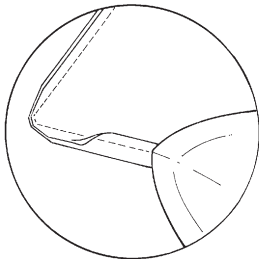

Fig. 7-3
9. Enclosed seams, such as those on collars and lapels, should also be pressed flat first, then pressed open before the garment section is turned right side out. Careful pressing in this way allows the seams to fall sharply along the edge of the finished garment. Press enclosed seams with the tip of the iron or use a point presser to get to hard-to-reach areas. (Fig. 7-3)